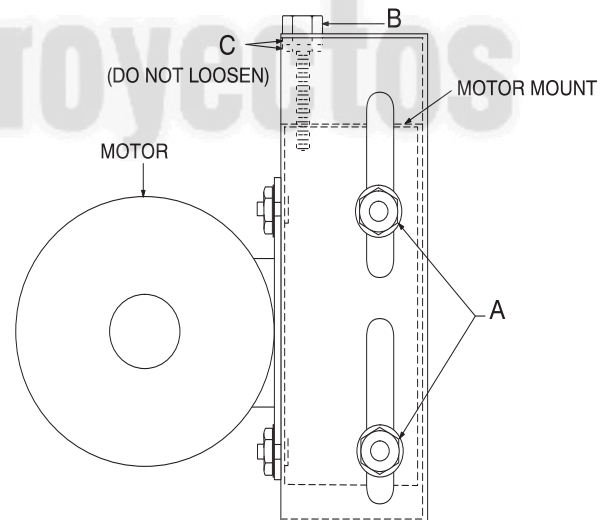

Figure 23: Typical Motor Mounting Assembly
- Knowing the pressure drop across a dry coil, the actual CFM through the unit can be determined from the curve in Figure 23.